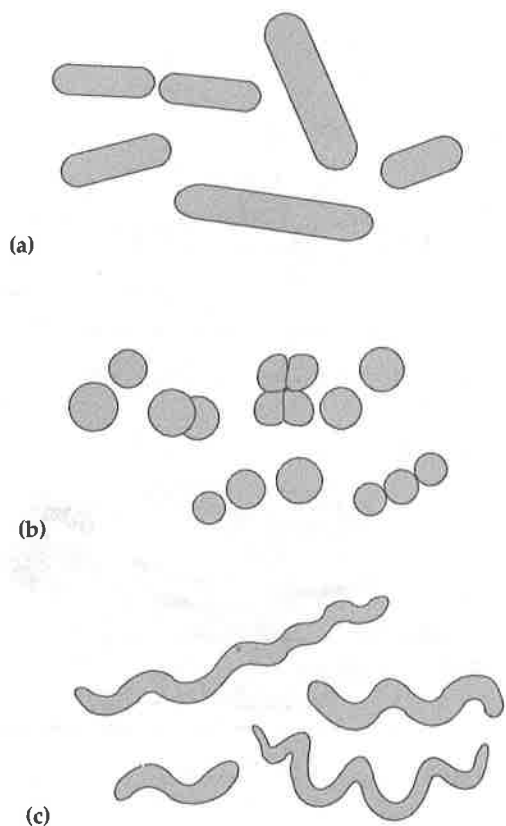

Figure 6
9. When your observations are completed, move the turret to bring a low-power objective into position. *Do not* rotate the high-dry (40 $\times$) objective through the immersion oil. Clean the oil off the objective lens with lens paper, and clean off the slide with tissue paper or a paper towel. Remove the slide. Repeat this procedure with all the available slides. When observing the bacteria, note the three different morphologies, or shapes, shown in Figure 6.